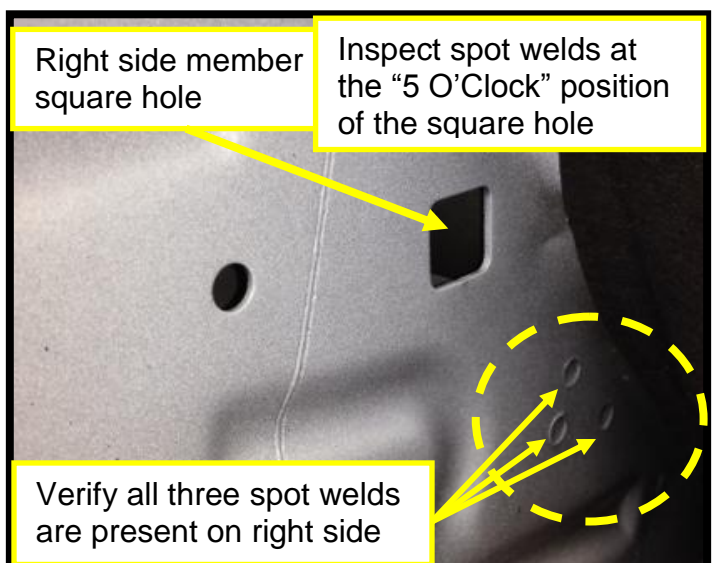

Figure 3
4. Locate the square hole in the right (passenger) side member as shown in Figure 3.